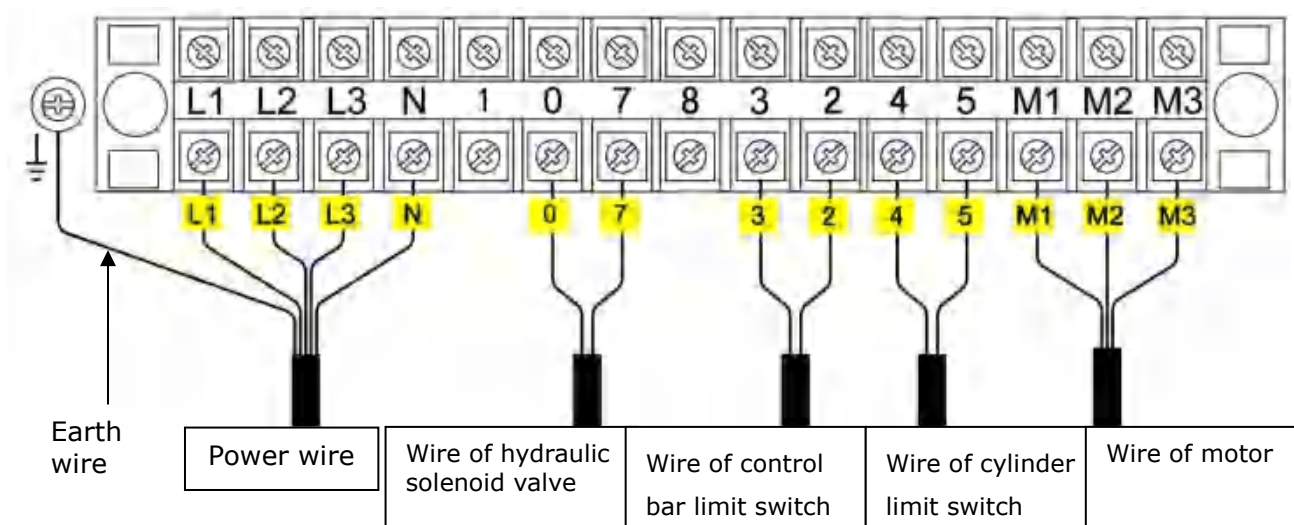

Fig. 38
2.1 Wire connection diagram in the control box (See Fig. 38).